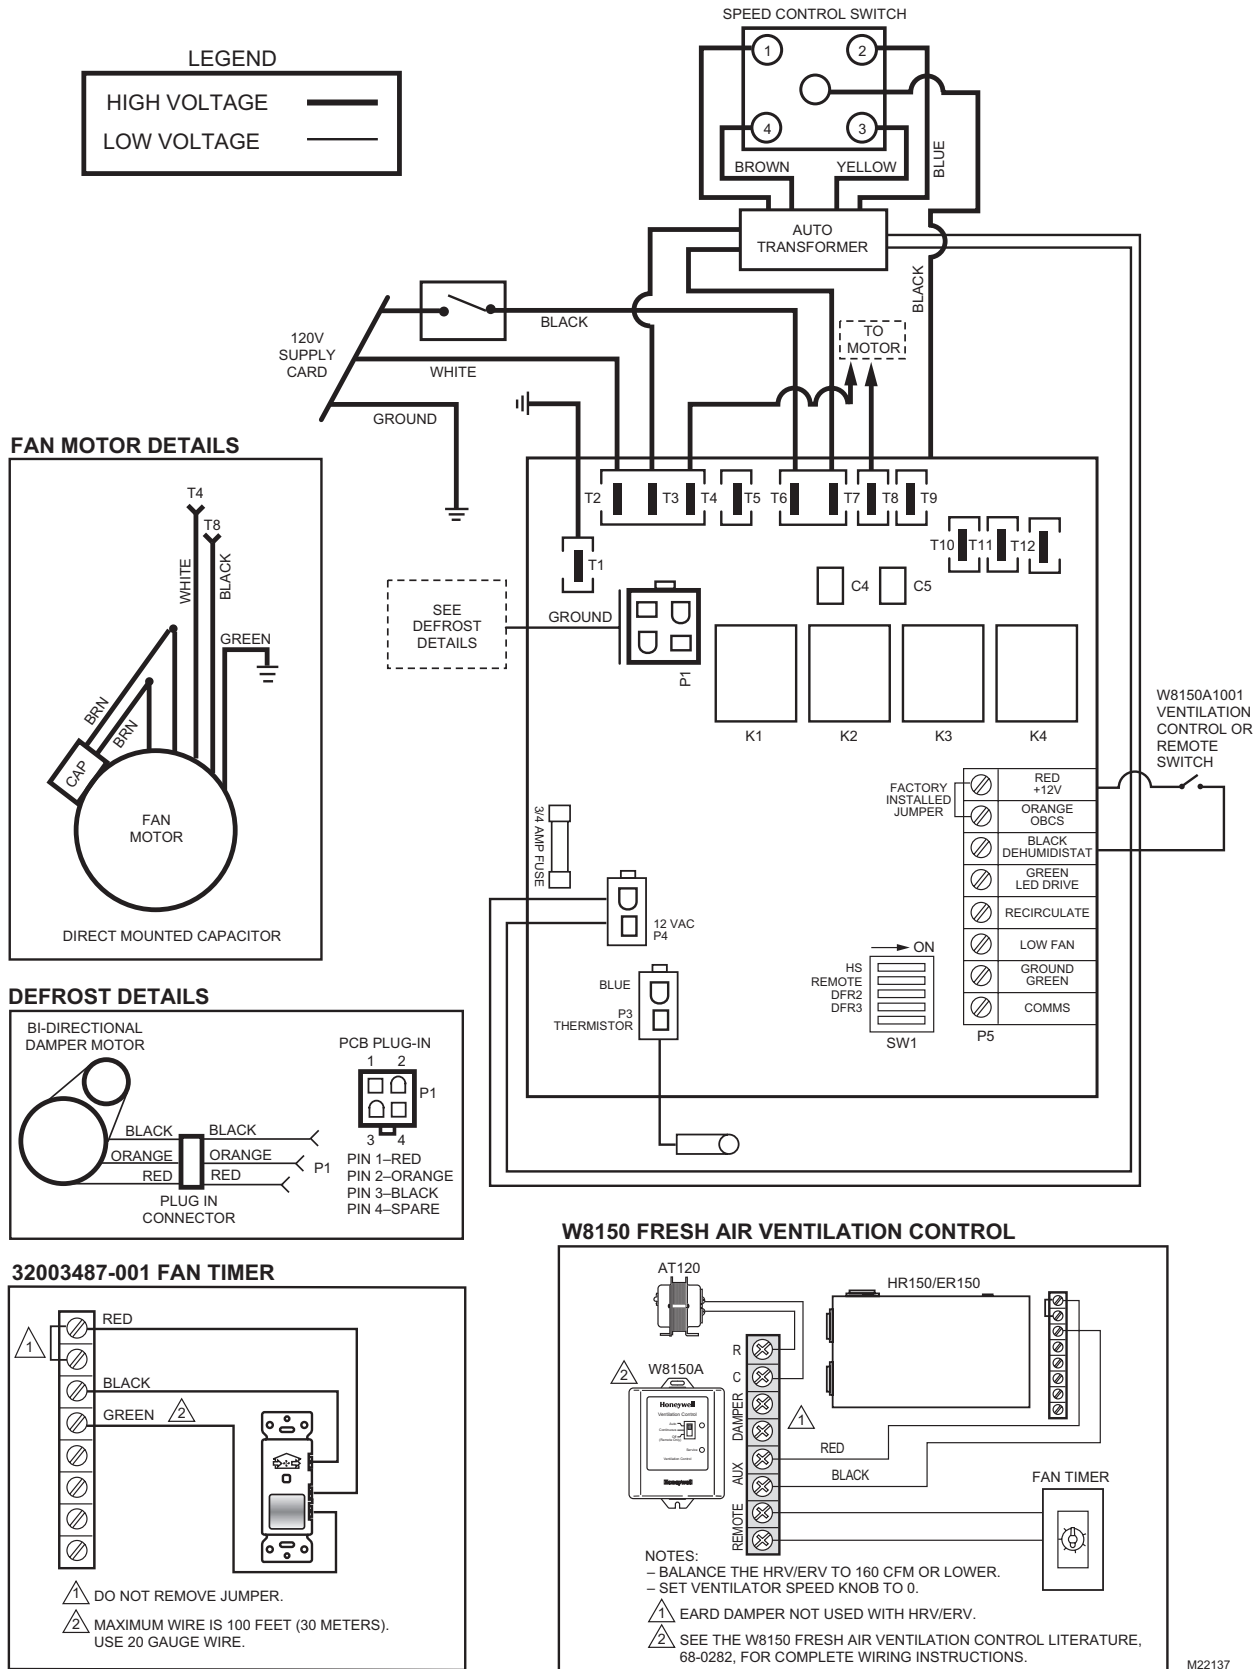

Fig. 11. Internal schematic for fresh air ventilation systems.
*The hot line (black) is the correct line to switch. See Fig. 11. To confirm correct polarity, use voltmeter or test lamp to verify there is no power after the switch when the door is open. Check between that point and ground (on cabinet). This process must be used because occasionally some dwellings are incorrectly wired.*
Mount digital fan timer in a full or one-half depth electrical box in the living space. See Fig. 11 for the 32003487 digital 20-minute fan timer and the W8150A Fresh Air Ventilation Control wiring diagrams. (See Accessory Parts List, items 9 and 10, for the W8150A Fresh Air Ventilation Control and the 32003487 Digital Fan Timer.)